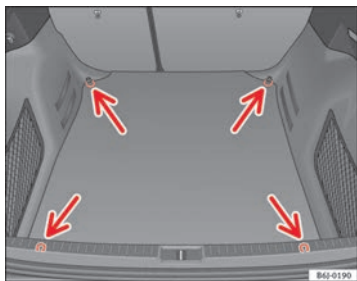

Fig. 91 Location of fastening rings in luggage compartment
- Use the fastening rings to secure the load ⇒ fig. 91 -arrows-.